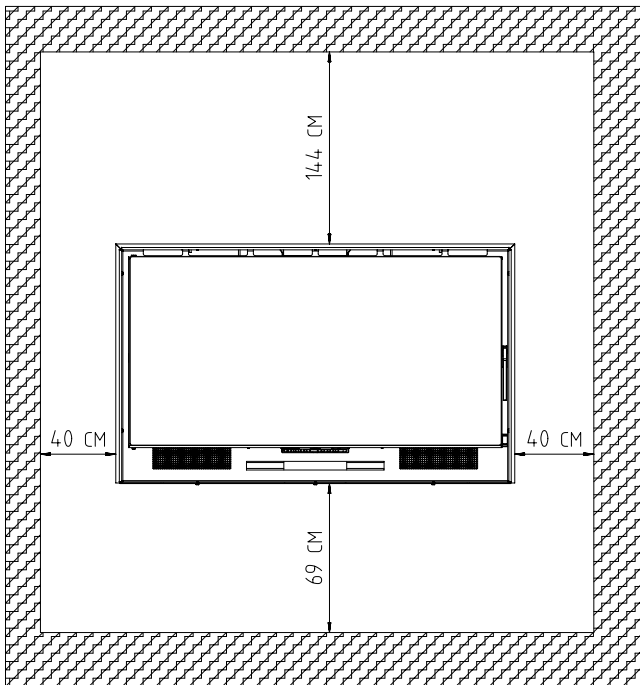

FIG. 14 - Safety distances
- Keep any flammable material (furniture, curtains, clothes...) away from the fireplace, at a safe distance of at least 0,90m. The minimum safety distances according to the trial by the official agency based on the UNE-EN 13229: 2001 are shown in Figure 14.